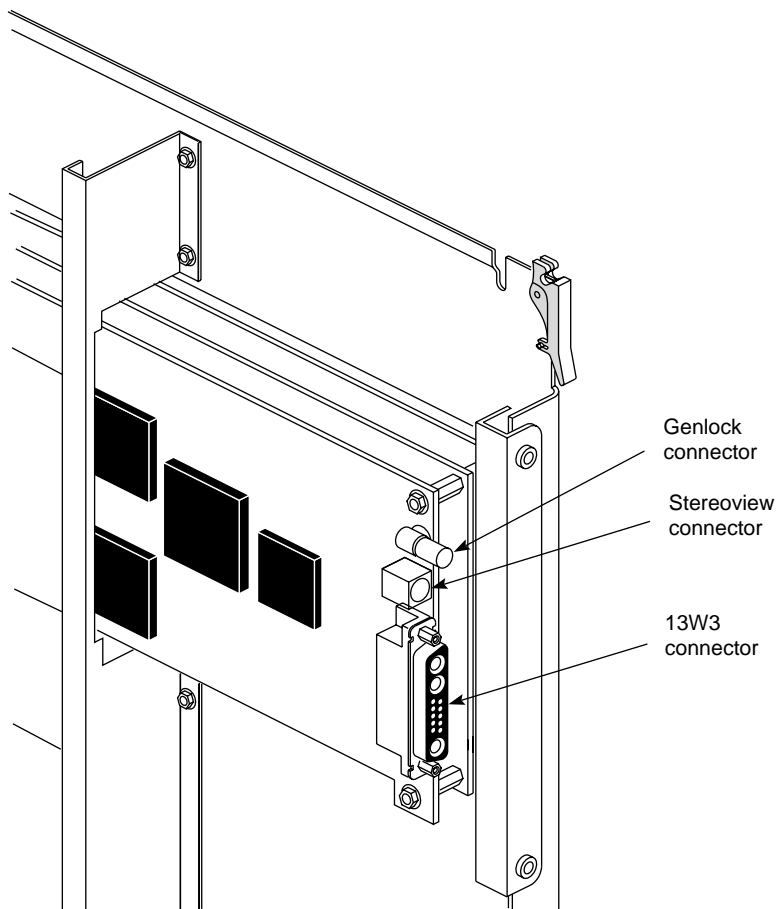

Figure 3-4 Extreme Board Set I/O Connectors
7. Install the new GCAM-equipped IO4 in place of the old VCAM-equipped IO4 in slot 15 (see Figure 3-4). Make sure that the new IO4 is properly seated into the backplane connectors and that the ejector tabs have engaged the top and bottom card guides.
12. Connect the 13W3, Genlock, and Stereoview connectors to the Extreme board (see Figure 3-4).